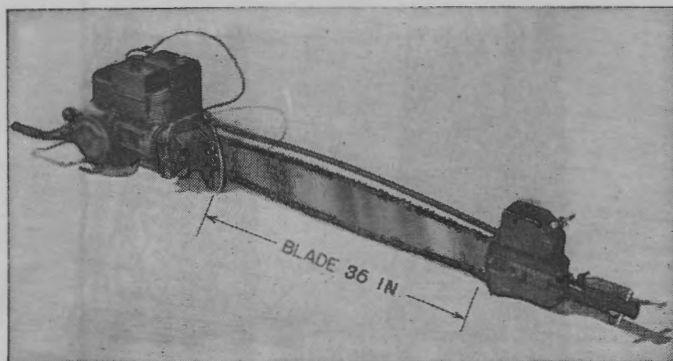

FIGURE 36.—Gasoline-driven chain saw.
■ 12. **FELLING TREES.**—With an ax, cut a deep notch near the base of the tree (see fig. 36) on the side toward which the tree is to fall. Then saw the tree on the opposite side to cut the remaining fibers, using steel wedges, if necessary, to keep the saw from binding. To cut the trunk clear of the stump, the saw cut should be started opposite the point of the notch. Where it is desired to keep the base of the tree firmly attached to the stump after felling, as in making a tree road block, the saw cut should be made considerably higher than the notch, so that all fibers will not be severed when the trunk falls. It is often advisable to use guy lines